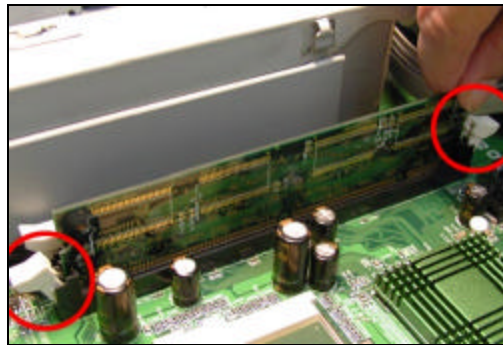

Figure 3.5.1
- iii. Press the module into the appropriate slot carefully but firmly. The clips at either end of the connector will lever upwards and latch into place to retain the module when it is installed correctly, as shown in [Figure 3.5.1].